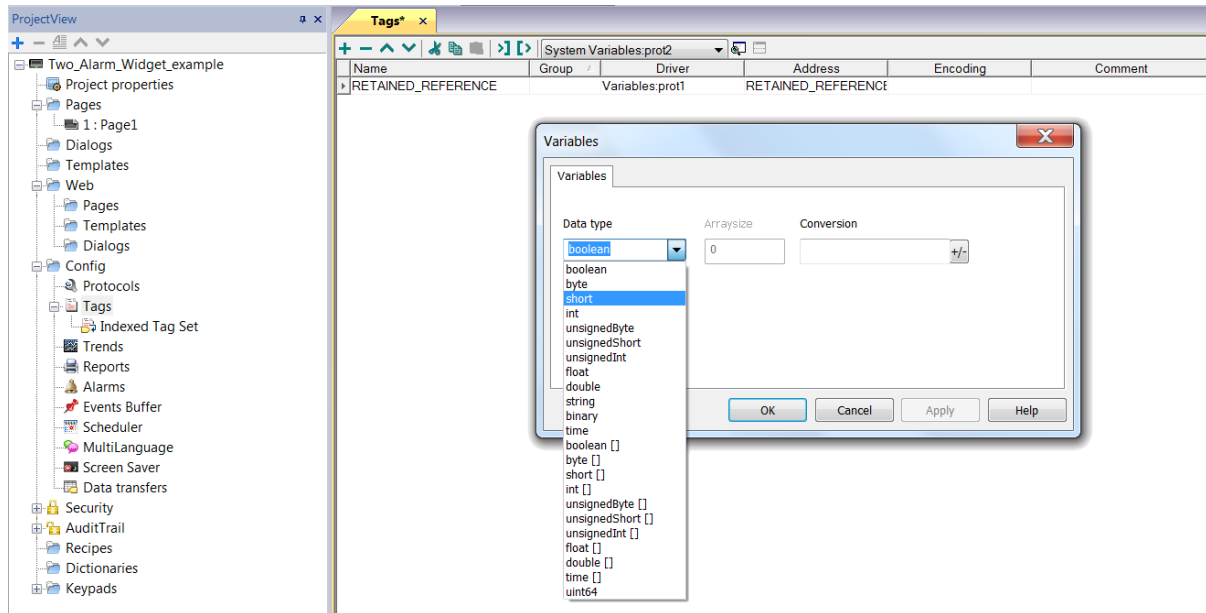

Figure 3- Configuring a tag
- 4.8. Click on the button labeled SAVE and add an OnMouseClicked event. Select UpLoadRecipe() from the action list, then fill in the recipe name and set to be saved. See figure 3. More than one recipe can be uploaded by adding more UpLoadRecipe() actions to the event. 6
3.6. When the variables dialog opens select the data type and click OK (Figure 3).
3.7. Change the variable Name to something meaningful (Figure 3).
- 4.8. Click on the button labeled SAVE and add an OnMouseClicked event. Select UpLoadRecipe() from the action list, then fill in the recipe name and set to be saved. See figure 3. More than one recipe can be uploaded by adding more UpLoadRecipe() actions to the event.